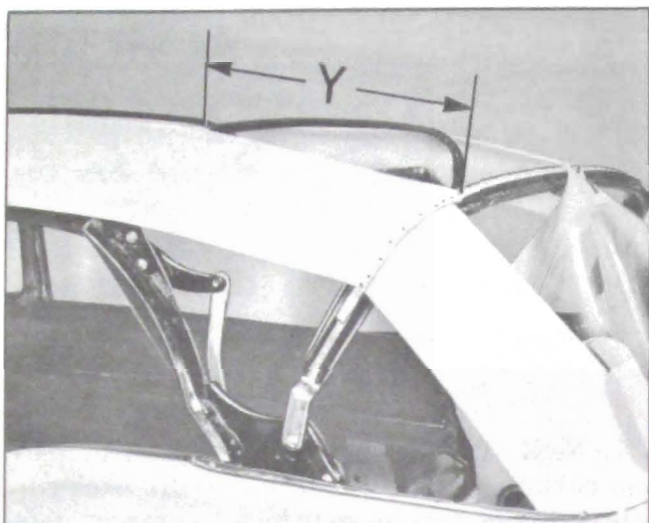

Figure 13-108—Positioning of Bows
9. Install side stay pads in the conventional manner. Dimension "Y" in Figure 13-108 is approximately $17\frac{3}{8}$ inches for "40" and "60" Series convertibles or 18 inches for "50" and "70" Series convertibles and is measured from center of each bow at inner edge of the pad.